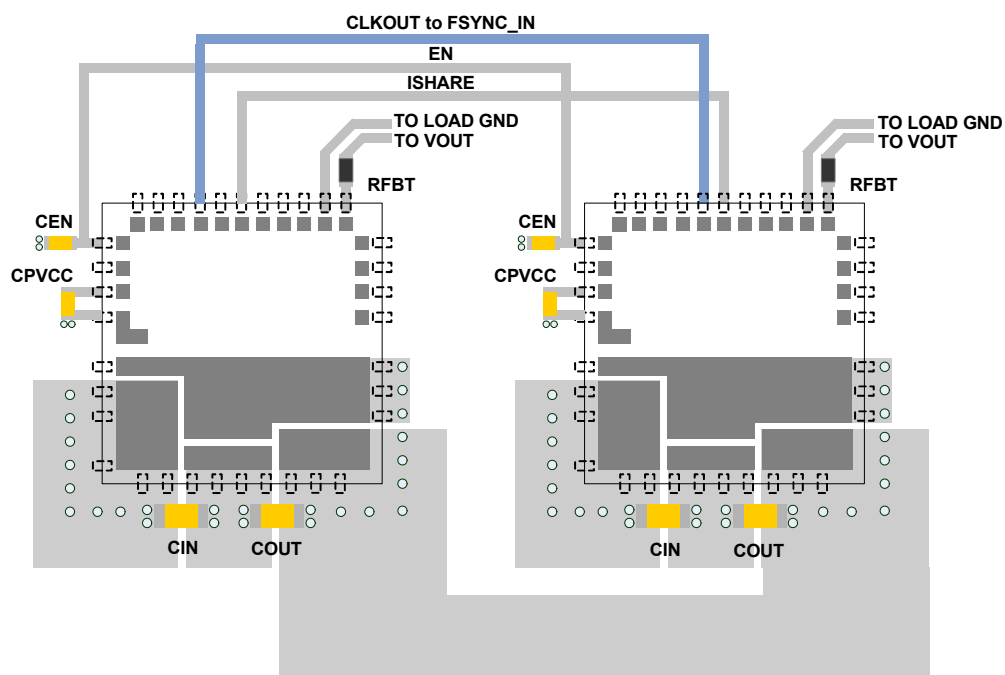

FIGURE 37. RECOMMENDED LAYOUT FOR DUAL PHASE SETUP
- Place modules such that pins 1 to 11 point away from power pads (PD1-4) so that signal busses (EN, ISHARE, CLKOUT-to-FSYNCIN) can be routed without going under the module. Run them along the perimeter as in Figure 37.
- Keep remote sensing traces separate, and connect only at the regulation point. Four separate traces for VSEN\_REM- and RFBT (which stands for remote feedback) as the example shows in Figure 37.